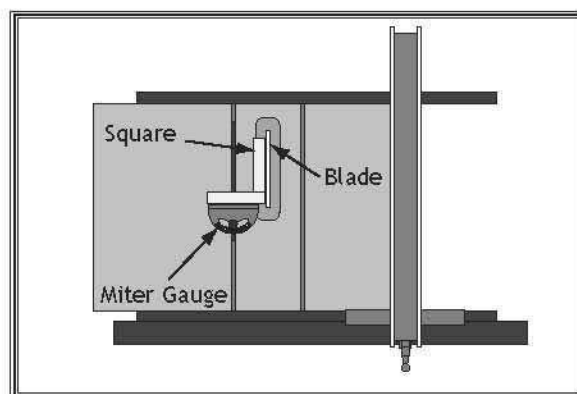

Figure 123. Checking 90° stop on miter gauge.
3. Place square evenly against face of miter gauge and blade, as shown in **Figure 123**.